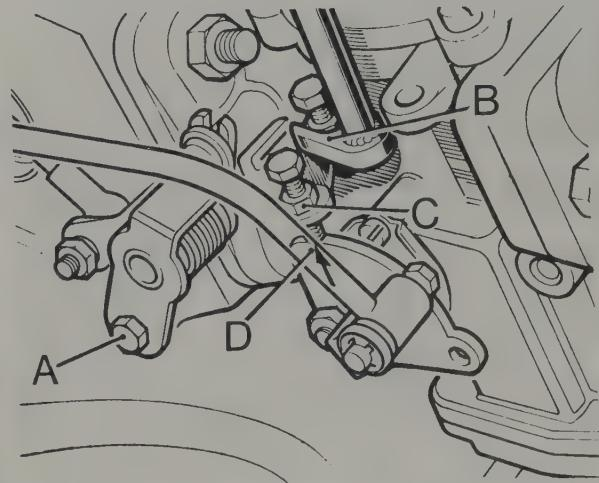

Fig. 3.19. Engine idle adjustment points
- 4 Release the screws "A" holding the throttle lever to the carburettor lever on both carburettors (Fig.3.19). This will allow independent adjustment of the carburettors.
- 5 With the engine running, use the special tool (Fig.3.18) to slacken off the idle adjusting screw locknuts "B" (Fig.3.19).
- 1 Pull out the mixture control to the point where the mark on the fast idle cam "D" is opposite the centre line of the fast idle adjusting screw "C" (Fig.3.19).